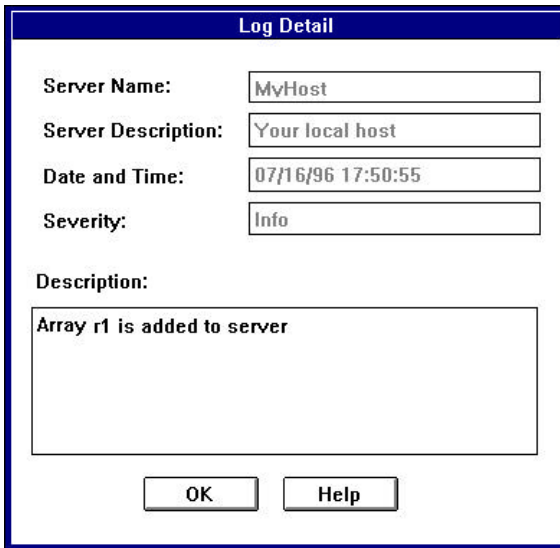

Figure 2-4: Log Detail Dialog Box
To view detailed information about an event, double-click the list entry. The Log Detail dialog box appears, as shown in Figure 2-4.
2. To view detailed information about an entry on the list, double-click the entry. The Log Detail dialog box appears, as shown in Figure 2-4.